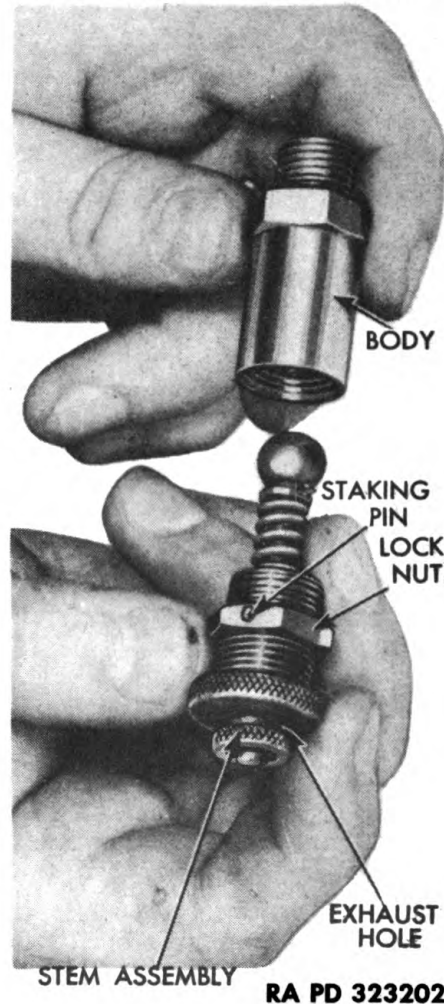

Figure 206 — Safety Valve Stem Assembly Removed from Body
a. **Remove Valve Stem Assembly** (fig. 206). Clamp safety valve body in a vise. Unscrew valve stem assembly with lock nut from valve body. The lock nut is secured to stem by a small staking pin. If it is necessary to adjust the valve, the pin should be removed as follows: Center punch the exposed head of staking pin which is located in lock nut. Drill out locking pin with $\frac{1}{16}$ -inch diameter drill. Do not drill deeper than $\frac{5}{32}$ inch.
92. CLEANING AND INSPECTION (fig. 206).